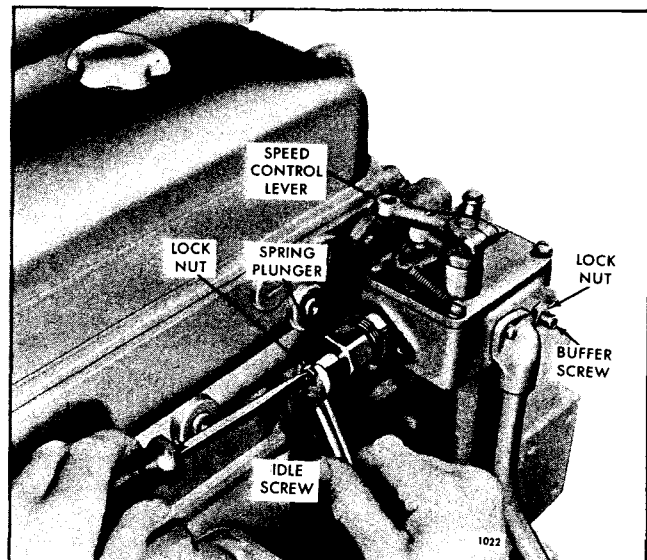

Fig. 8 - Adjusting Engine Idle Speed
and with the buffer screw (Fig. 8) backed out to avoid contact with the differential lever, turn the idle speed adjusting screw until the engine is operating at approximately 15 rpm below the recommended idle speed. The recommended idle speed is 550 rpm for single weight governors and 450 rpm for double weight governors, but may vary with special engine applications.
1. With the engine running at normal operating temperature, turn the buffer screw (Fig. 8) in so that it contacts the differential lever as lightly as possible and still eliminates the engine roll.